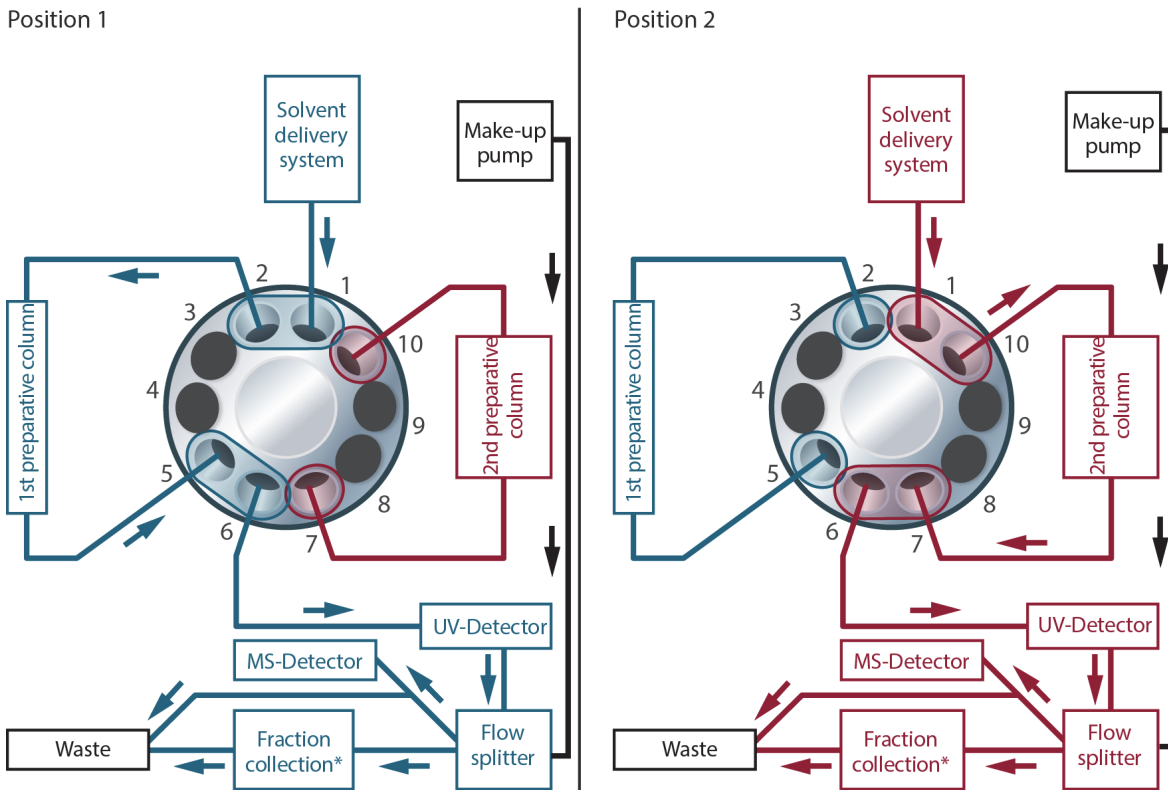

Figure 24 Schematic overview for a UV-MS detection based preparative scale system with flow split after UV-detection
- UV detector before splitter (see Figure 24 on page 63)